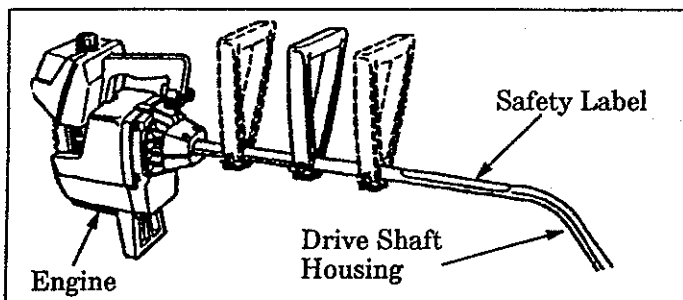

Figure 4
**CAUTION:** When adjusting the Assist Handle for comfort, be sure that the Assist Handle remains between the Engine and the Safety Label on Drive Shaft Housing. Figure 4 .
- Adjust Assist Handle up or down the Shaft Housing for comfort. Figure 4 .